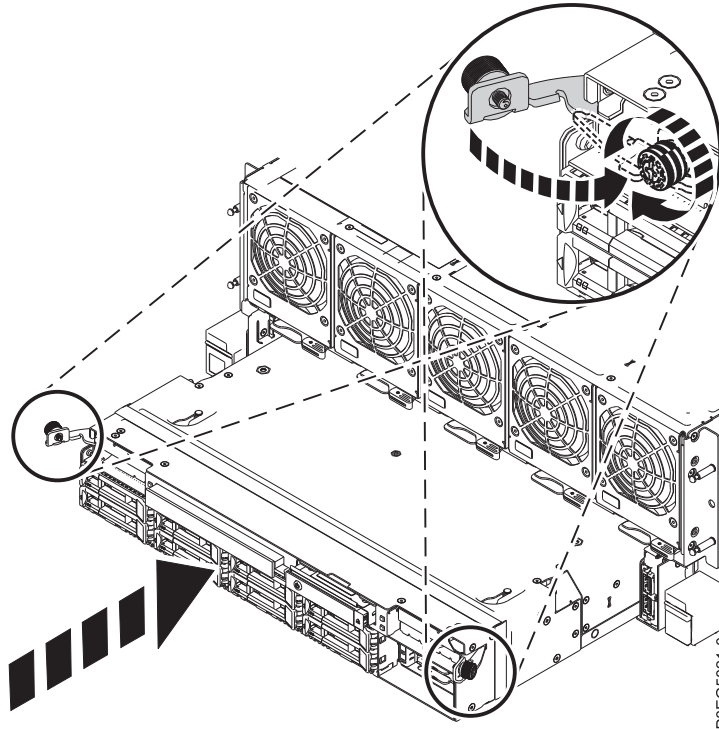

Figure 14. Replacing the disk drive backplane at the front of the system chassis
3. Push the latches in and tighten the thumbscrews, as shown in Figure 14 on page 14.